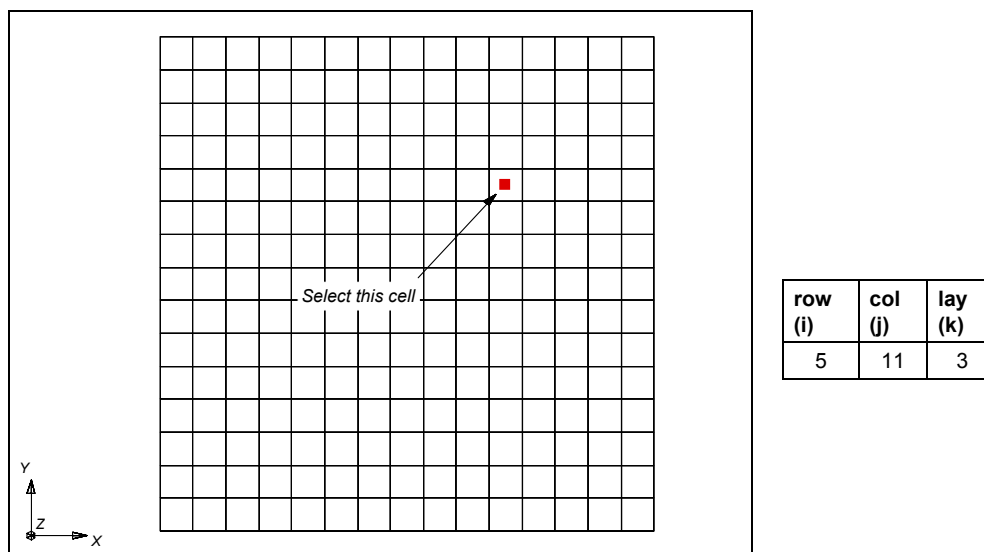

Figure 7. Cell to be Selected on Bottom Layer.
2. Select the cell as shown in **Figure 7**.